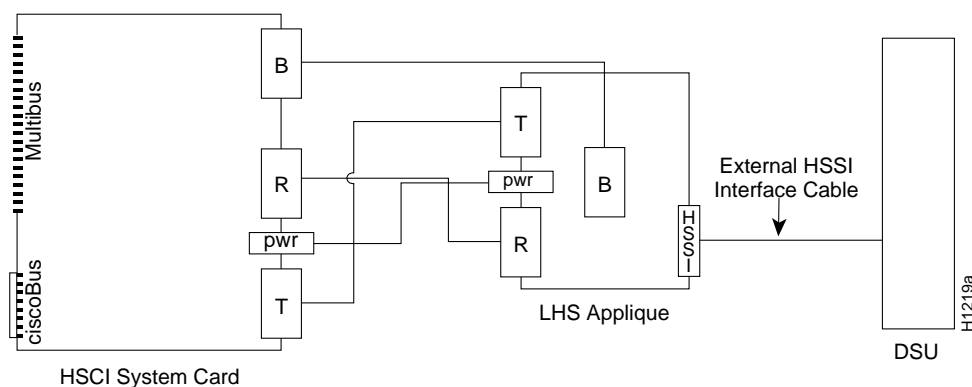

Figure 6 HSCI Internal Ribbon Cable Routing Diagram
- If the cables are not labeled, refer to the cable routing diagram in Figure 6 and trace each cable from the applique to its correct port on the HSCI card. To access the applique connection, first ensure that the chassis power cord is unplugged, then remove the seven cover screws and lift the cover off the chassis.